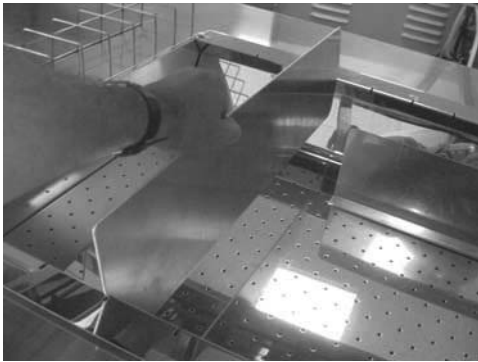

Figure 19
24. Locate the french-fry station dividers. Insert the flat divider into the slots (see Figure 19), keeping the spacing far enough apart to accommodate the bun pan for dumping french fries into the well. The dividers with the flat edges are cross dividers and sit on the bottom of the well. See below.